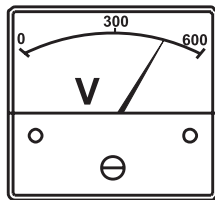

Figure 48. Voltmeter
- The generator's **AC voltmeter** (Figure 48) will display the generator's output in **VOLTS**.